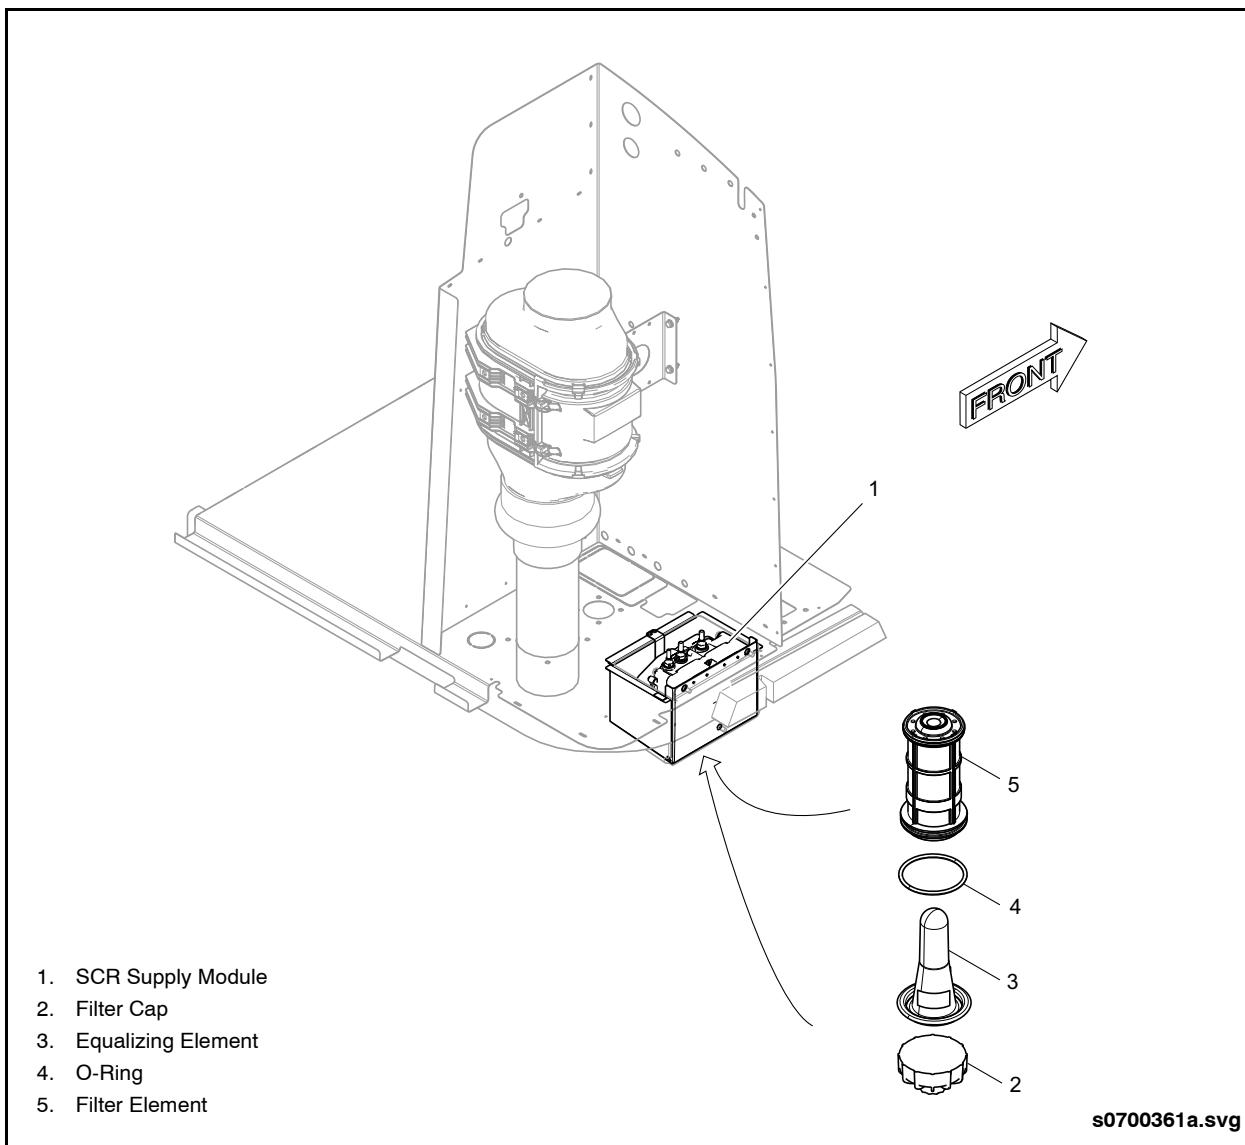

Fig. PM-43: Diesel Exhaust Fluid (DEF) Filter
3. Locate the filter housing on the bottom of the SCR Supply Module. Inspect the area around the seal and vent of the filter cap for signs of leakage. See "Fig. PM-43: Diesel Exhaust Fluid (DEF) Filter" on page 88.